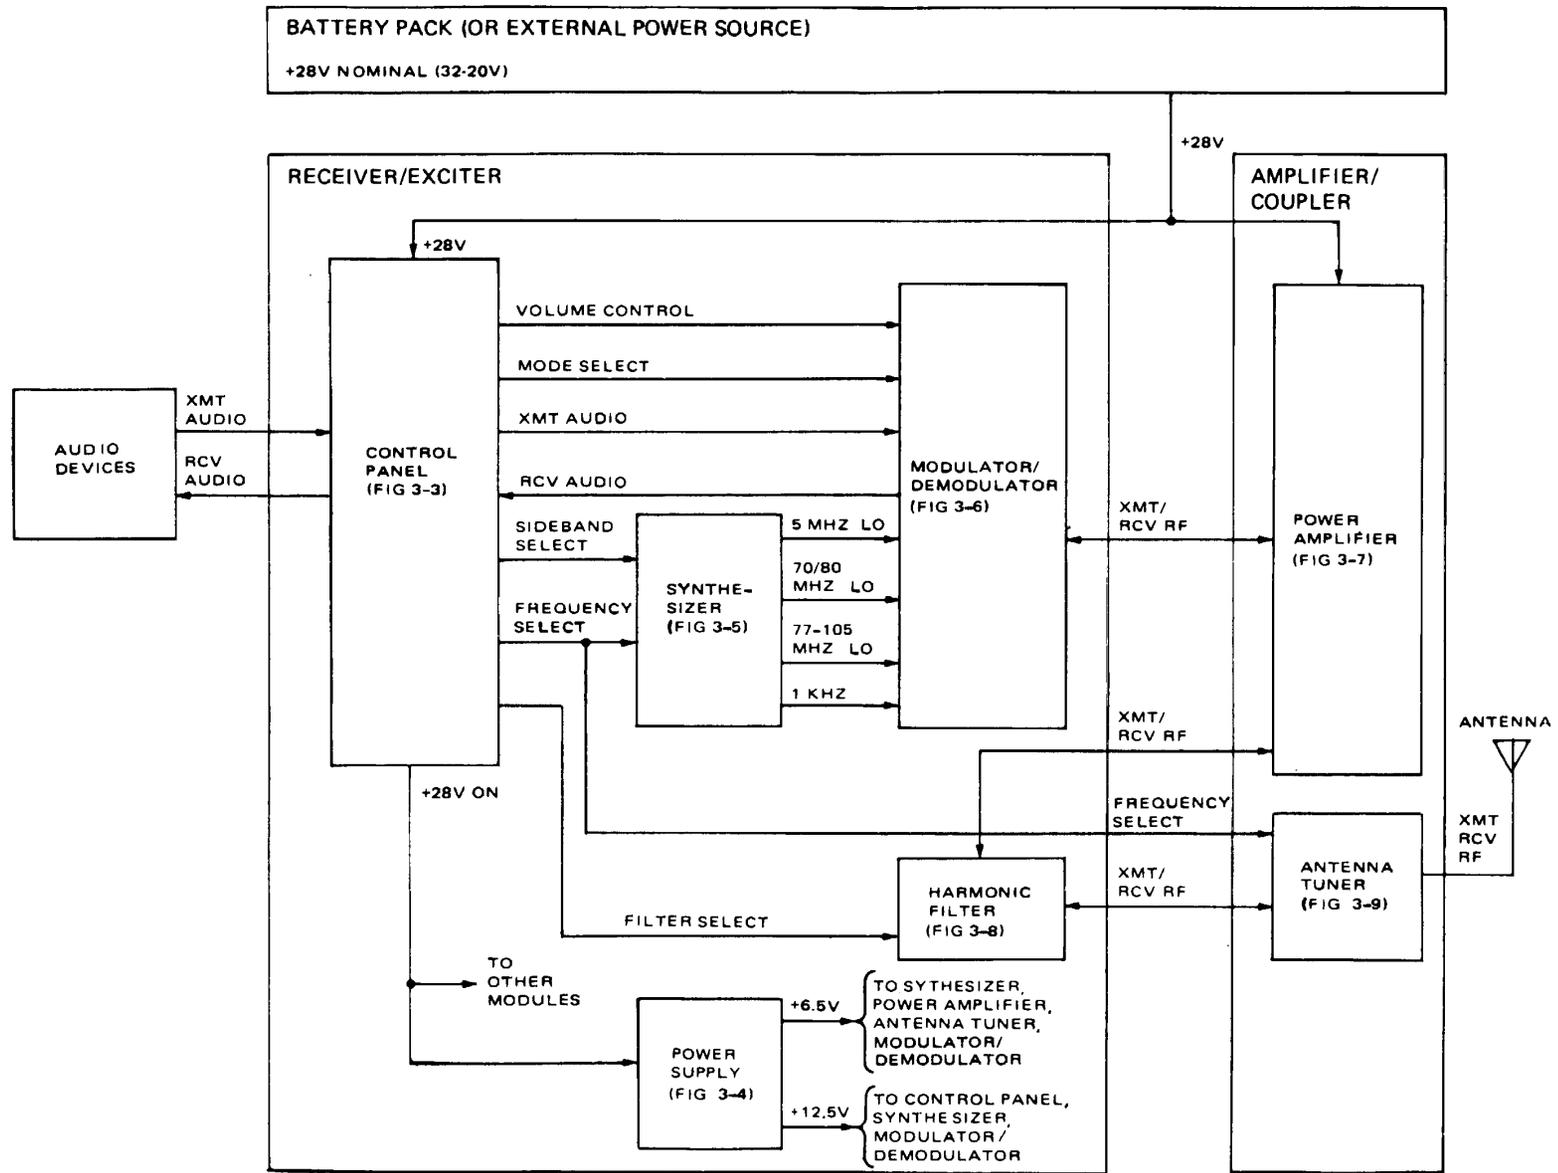

Figure 3-2. Radio Set Simplified Block Diagram
3-10. CONTROL PANEL (Figure 3-2). The receiver/exciter control panel provides operational control of the radio set. It couples voice or CW key from the audio devices in use by the operator, and has controls for selection of frequency, volume, mode, and sideband (SB), and illumination of frequency readouts. Frequency Select and Sideband Select signals are routed to the synthesizer, and the Frequency Select signal also to the antenna tuner. Filter Select signals are routed to the harmonic filter. Volume control, mode select and Xmt Audio are applied to, and Rcv Audio is received from, the modulator/d-demodulator. The control panel also